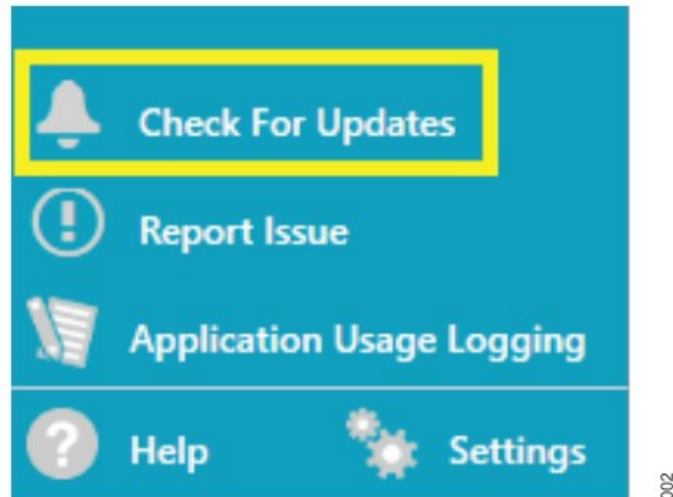

Figure 2. Check For Updates Option in the ACE Sidebar
1. Download and install the ACE Software from the ACE web page. If ACE is already installed on the computer, ensure that the latest version is being used by clicking the Check For Updates icon in the ACE Software sidebar, as shown in Figure 2.